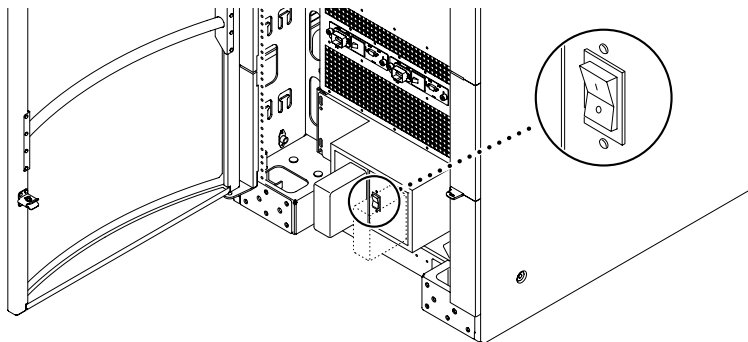

FIGURE 2-5 RTS AC Power Switch on the Sun Fire E6900 System
1. Turn off each redundant transfer switch (RTS) on both the front and rear of the system (FIGURE 2-5).